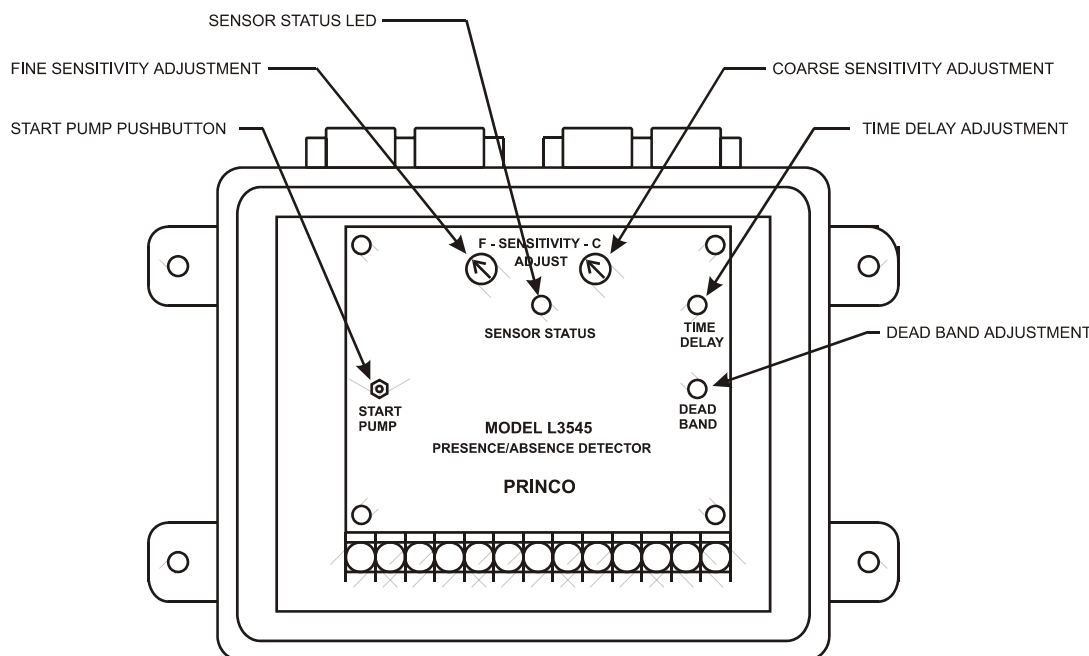

Figure 4-1. L3545 Adjustment and Indicator Locations
1. Refer to Figure 4-1 for L3545 adjustment and indicator locations.
- a) Refer to Figure 4-1 for adjustment and indicator locations. Refer to figure 4-2 for a pictorial outline of this procedure.
- c) Preset Coarse (C) and Fine (F) sensitivity (SENS) potentiometers to mid-point positions (12 o'clock).
- f) With the pipeline and Sensor Flange completely empty (coated from step e), adjust the Coarse (C) sensitivity such that the SENSOR STATUS LED "just turns" green. Mark the Coarse (C) pot screwdriver slot or mentally note its position.
- a) Refer to Figure 4-1 for adjustment and indicator locations. Refer to Figure 4-3 for a pictorial outline of this procedure.
- c) Preset the Fine Sensitivity pot (F) full clockwise and the Coarse Sensitivity pot (C) to the full counter-clockwise position.
- f) With the pipeline and Sensor Flange completely empty (coated from step e), adjust the Coarse (C) sensitivity potentiometer such that the SENSOR STATUS LED "just turns" green, and stays. Don't touch the Coarse (C) sensitivity pot again.
A single turn TIME DELAY pot is provided (see Figure 4-1). Many applications require no time delay. In this case, adjust the TIME DELAY pot to the maximum counter-clockwise direction (zero time delay).
When the DEAD BAND pot is turned clockwise, the trip point opens up into an ever-increasing band, above and below the original set point. The control relay would energize at the top point, and de-energize at the bottom point. Accordingly, adjust the Dead Band pot clockwise (see Figure 4-1) just enough to compensate for the adverse process effect in question (i.e. minute electrical conductivity changes in the product flowing in pipeline). Note that the action of the Dead Band adjustment will be defeated in applications where the process liquid is conductive.